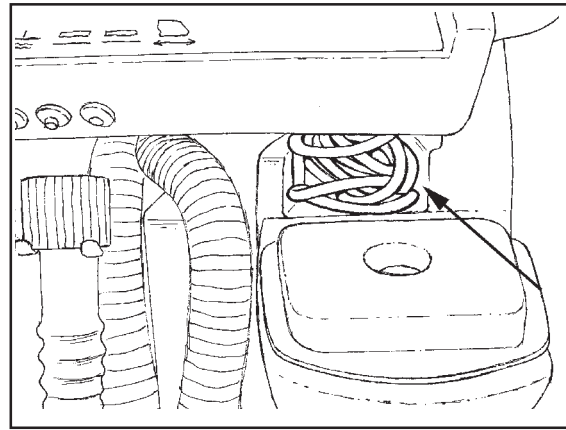
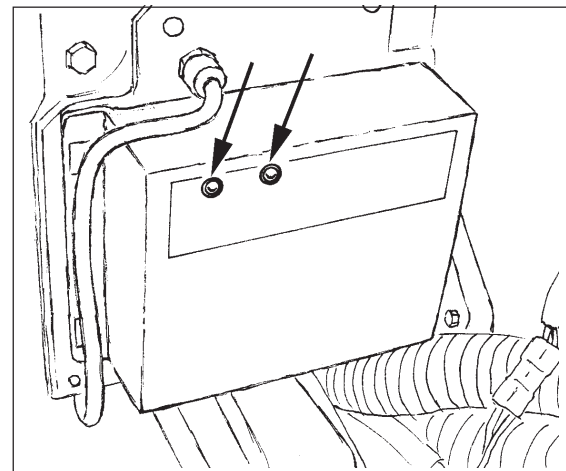

Figure 16
Figure 17
5. The Scrubtec is equipped with an on-board charger located behind the recovery tank (See Figure 17). The charger is a 3-stage charger designed to maximize battery life. The AC power cord to the on-board charger is located in its storage compartment under the control handle at the rear of the machine (See Figure 16). Pull the cord out of the storage compartment.
- **Bulk Stage** - In the bulk stage of charging, the red light is illuminated on the charger (See Figure 17). During this stage the charger is supplying its full amp output to the batteries. It will continue to charge the batteries at this rate until the batteries reach approximately 75% of their capacity.
- **Absorption Stage** - In the absorption stage the red and green light will be illuminated on the charger (See Figure 17). During this stage the charger maintains constant voltage and lets the batteries absorb the charge at their own rate.
- **Float and Maintenance Stage** - In the maintenance stage the red light turns off and only the green light will be illuminated on the charger (See Figure 17). During this stage the charger applies a lower, closely regulated voltage to maintain full charge and prevents discharge. Batteries can be connected indefinitely without harm.
8. Unplug charger power cord from the wall outlet before powering up control panel on machine. Store the charger power cord in the storage compartment located under the control handle (See Figure 16).